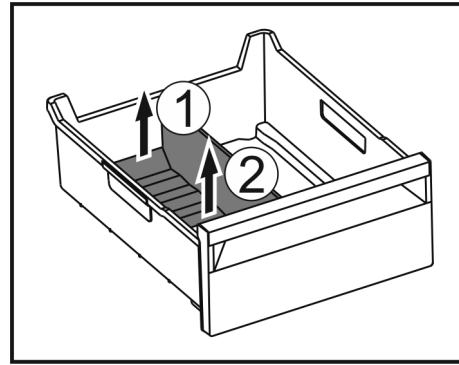

Fig. 130
- Lift the rear part of the ice compartment divider. Fig. 130 (1)
- Remove the ice compartment divider upwards. Fig. 130 (2)